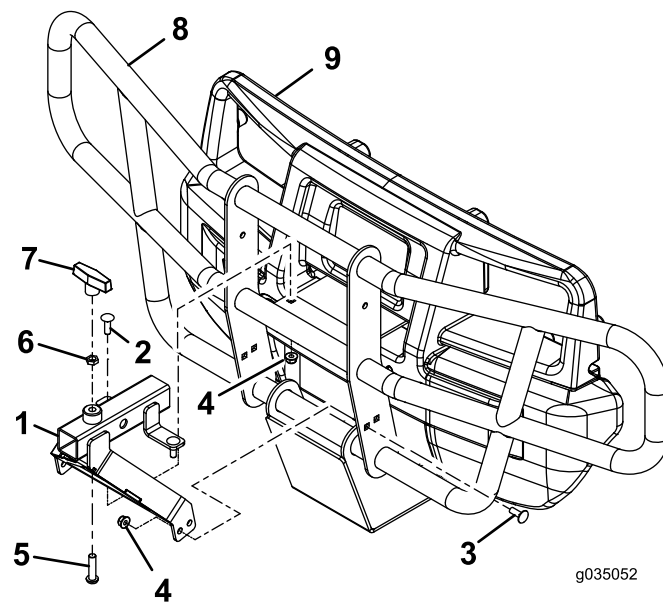

Figure 1
2. Remove and discard the 2 existing carriage bolts and 2 locknuts from the brush guard as shown in Figure 1.
3. Loosely install the front quick attachment with 2 carriage bolts (5/16 x 1 inch) and 2 flange nuts (5/16 inch) as shown in Figure 1.
4. Loosely install the front quick attachment with 4 carriage bolts (5/16 x 7/8 inch) and 4 flange nuts (5/16 inch) as shown in Figure 1.
5. Install the hex-socket, button-head bolt, jam nut, and T-handle (Figure 1).